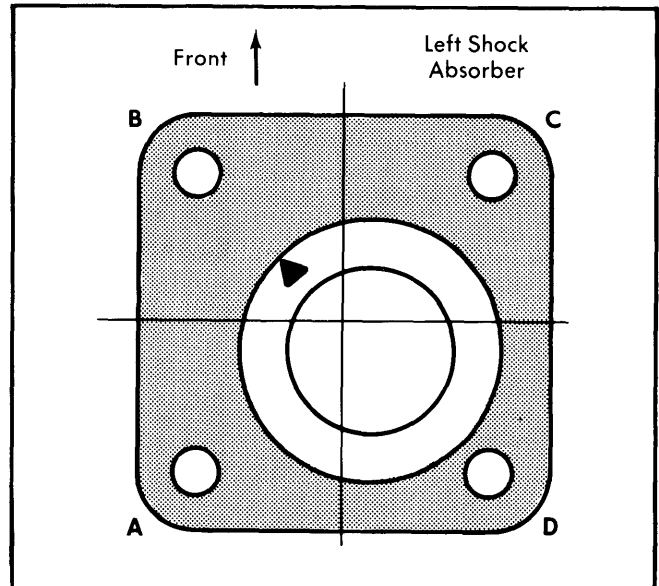

Fig. 1 RX4 & Cosmo Caster and Camber Adjusting Pad (Position "B" Shown)
2) Press shock absorber downward and change position of support according to table and Fig. 1. Tighten shock absorber support mounting nuts. Install wheel, lower vehicle and recheck caster and camber.